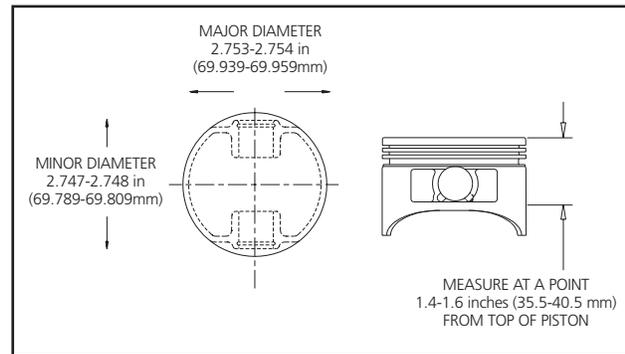

Figure 10.3 — Piston Major and Minor Diameter
The piston is slightly elliptical. Its larger diameter is 90° from the wrist pin boss; its smaller diameter is in line with the wrist pin boss (see Figure 10.3).
- a. At a position directly in-line with the wrist pin hole, measure down from top of piston to a distance of 1.4-1.6 inches (35.5-40.5mm) (see Figure 10.3).
- a. At a point 90° from the wrist pin hole, measure down from top of piston to a distance of 1.4-1.6 inches (35.5-40.5mm) (see Figure 10.3)